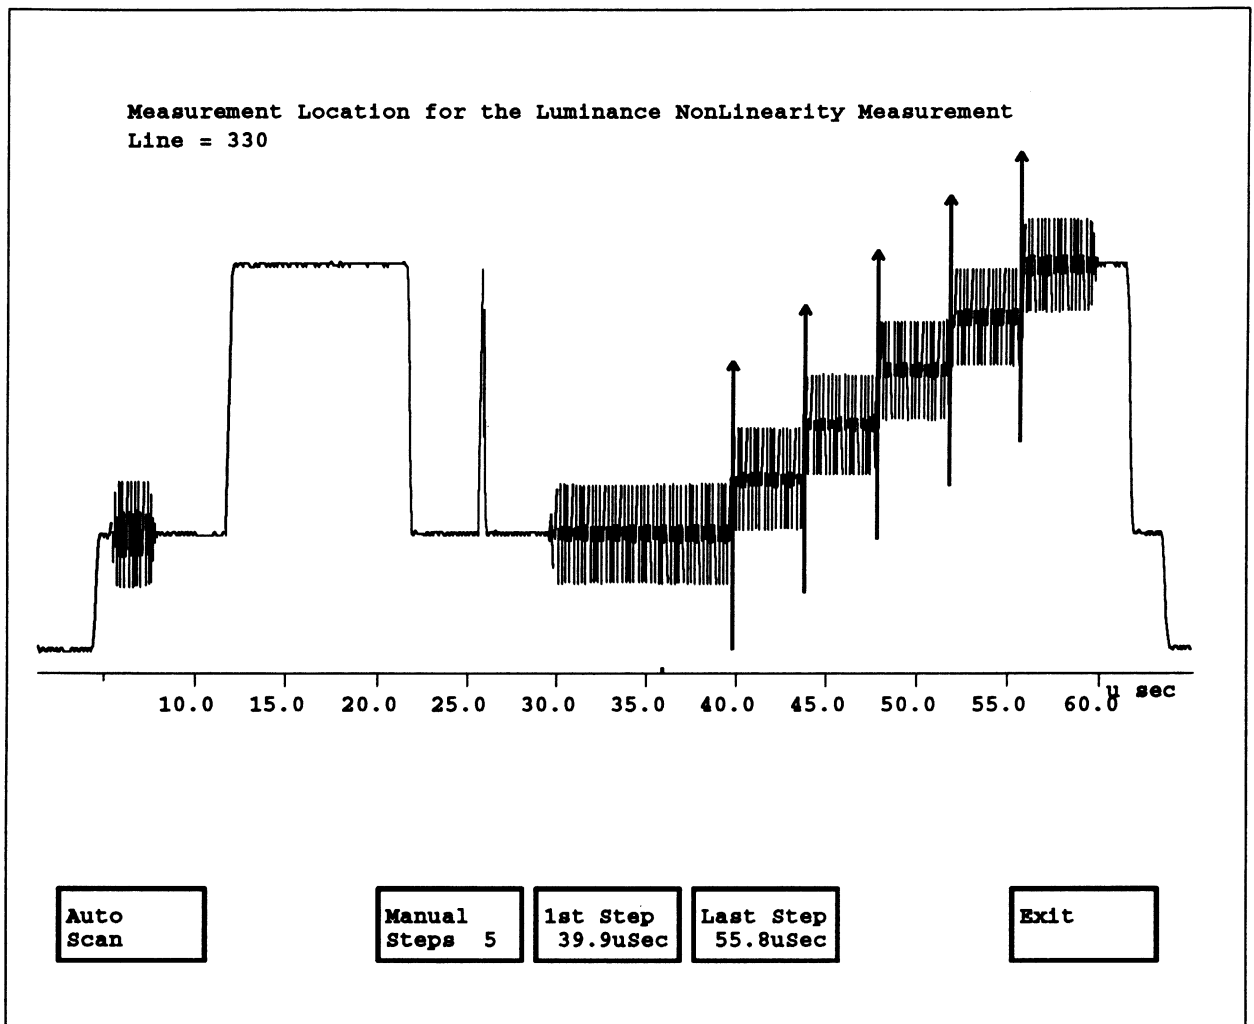

Figure 2-50. Luminance NonLinearity special position display.
**Special Position** provides softkeys to set the locations on the waveform where the measurement is made. Figure 2-50 shows the Luminance NonLinearity special position display.